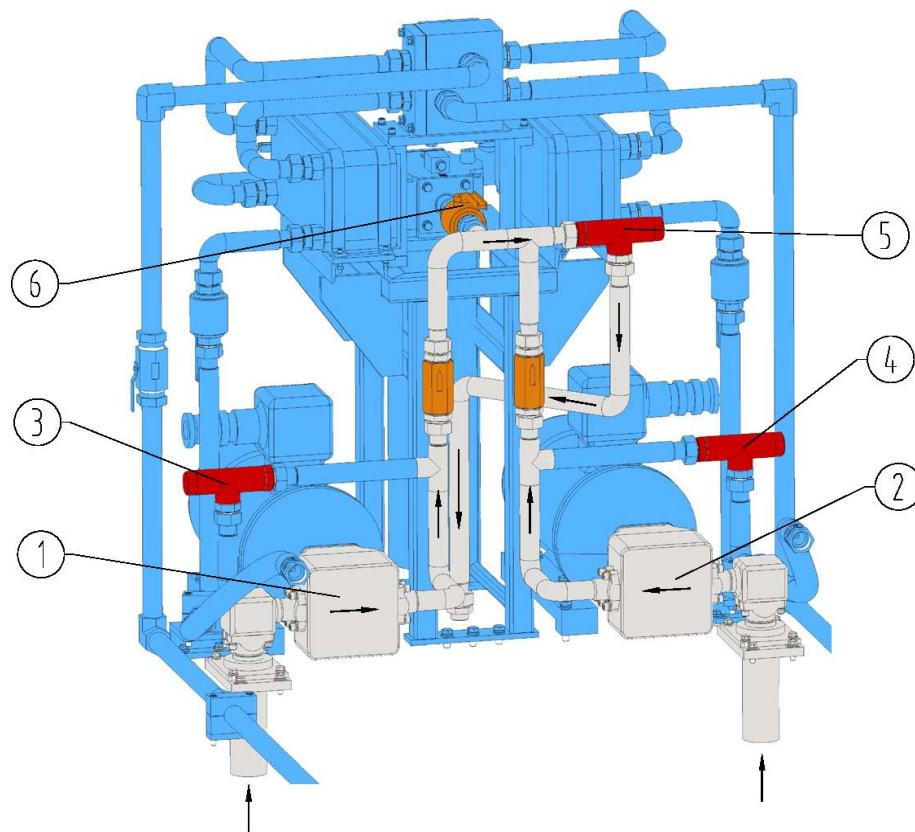

Figure 10: Lube Oil Heating Line
The lube oil needs to be heated when the ambient temperature is below the allowable minimum temperature. The heating method is: Fully close the ball valve (6), adjust the safety valve (3) and (4) to the highest pressure, and the safety valve (5) to the lowest pressure. Start the heater and the oil pump, the oil is sucked from the oil tank then return back to tank follow the line shown in figure10 (the low temperature high viscosity lube oil does not pass the filter to protect the filter), heat the oil during the cycle. The lube oil need to be heated to 64.4deg F when using 1000# lubricant (the oil need to be heated to 55.4deg F when using 680# lubricant). Open the ball valve (6) then adjust the safety valve (5) to 1.1MPa after heating the oil to specific temperature .Ensure run the lube pump and pump oil through all the internal lube lines before starting the mud pump.
Use Figure 10 to reference component locations. The specific method is: